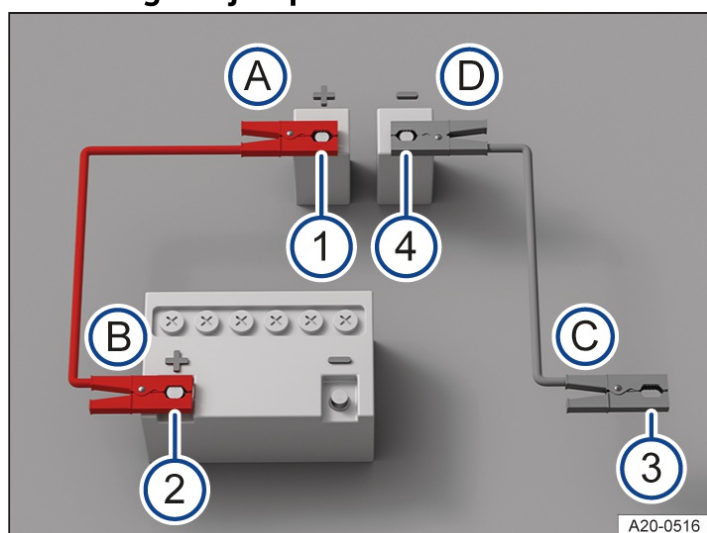

Fig. 1 Schematic diagram of how to connect the jump leads.
The jump leads should be connected only in the order A – B – C – D → Fig. 1.
3. Connect one end of the *red* jump lead to the positive battery terminal jump-start connection point(+) of the electric vehicle with the discharged 12-volt vehicle battery → Fig. 1 ① → ⚠.
4. Connect the other end of the *red* jump lead to the positive battery terminal(+) of the vehicle battery providing assistance → Fig. 1 2.